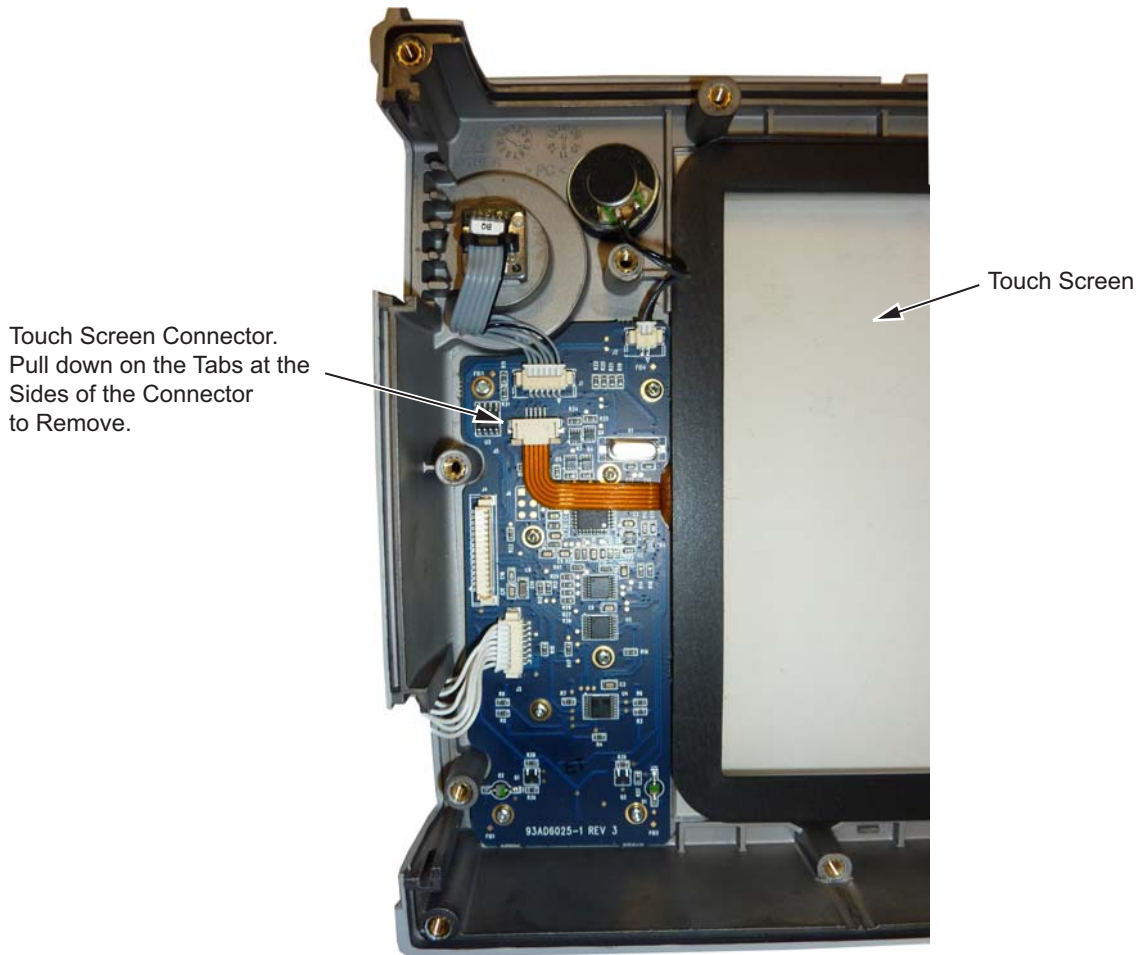

Figure 7-18. Replacing the Touch Screen
4. Remove the touch screen flex circuit connector from the Keypad PCB by pulling the tabs on each side of the connector away from the connector and in the direction of the flex circuit. Refer to Figure 7-18.